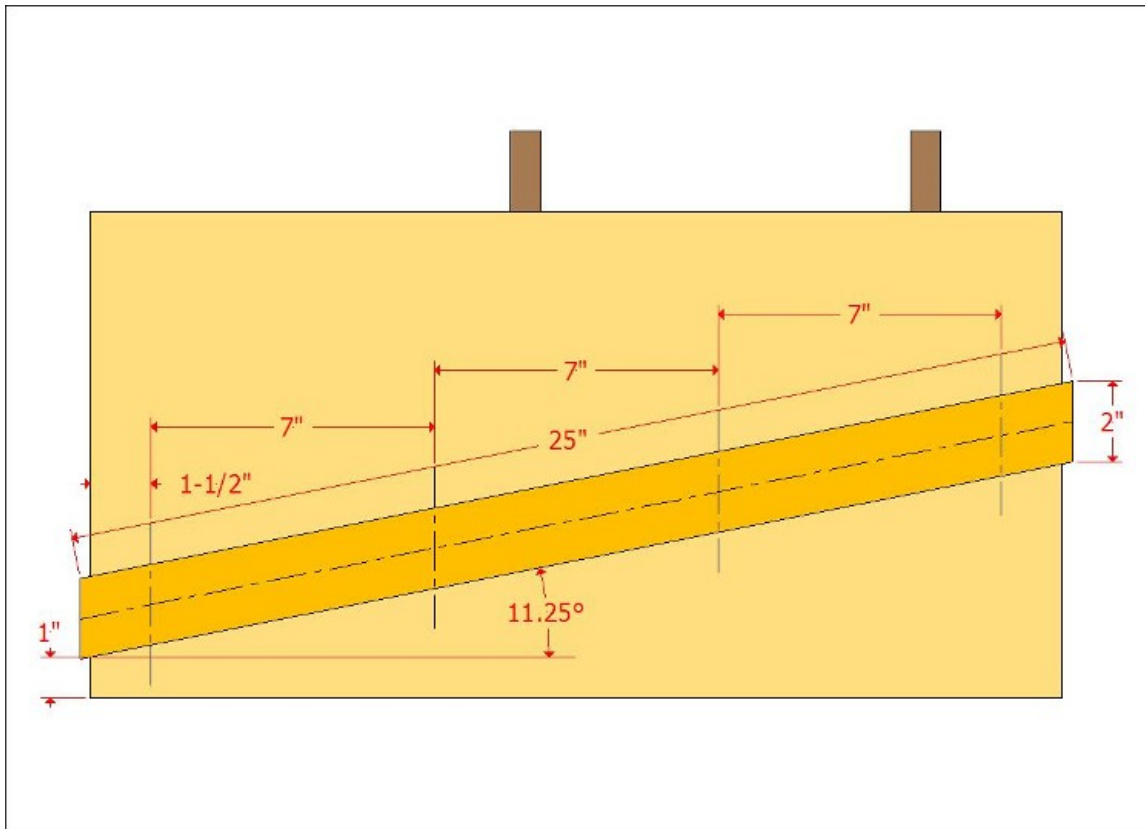

Figure 3 Fence position and screw hole layout.
10. Measure up 1" from the bottom left corner of the sled base and place the fence such that the back face is on the mark and over hangs the left side by about 1/8" (figure 3).
15. If you are using a protractor, position the fence so that it is at an angle of 11.25° per figure 3.